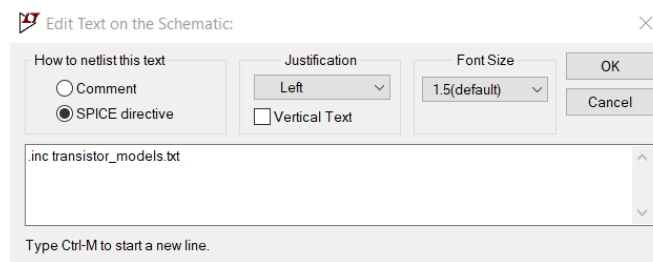

Figure 2.2 Inserting SPICE Directive Textbox
- a. **Click on the SPICE Directive**  icon in the shortcut icons. Figure 2.2 should appear.